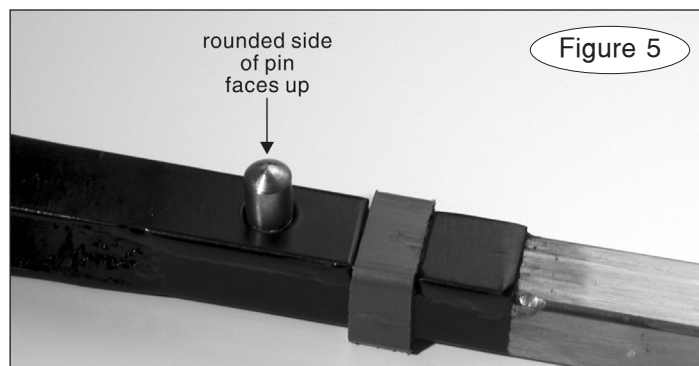

Figure 5
8. Lubricate the bottom of one of the new pins (Figure 2) thoroughly. As before, use a dry silicone aerosol. Then, position the new pin, rounded side up (Figure 5), on the new spring.